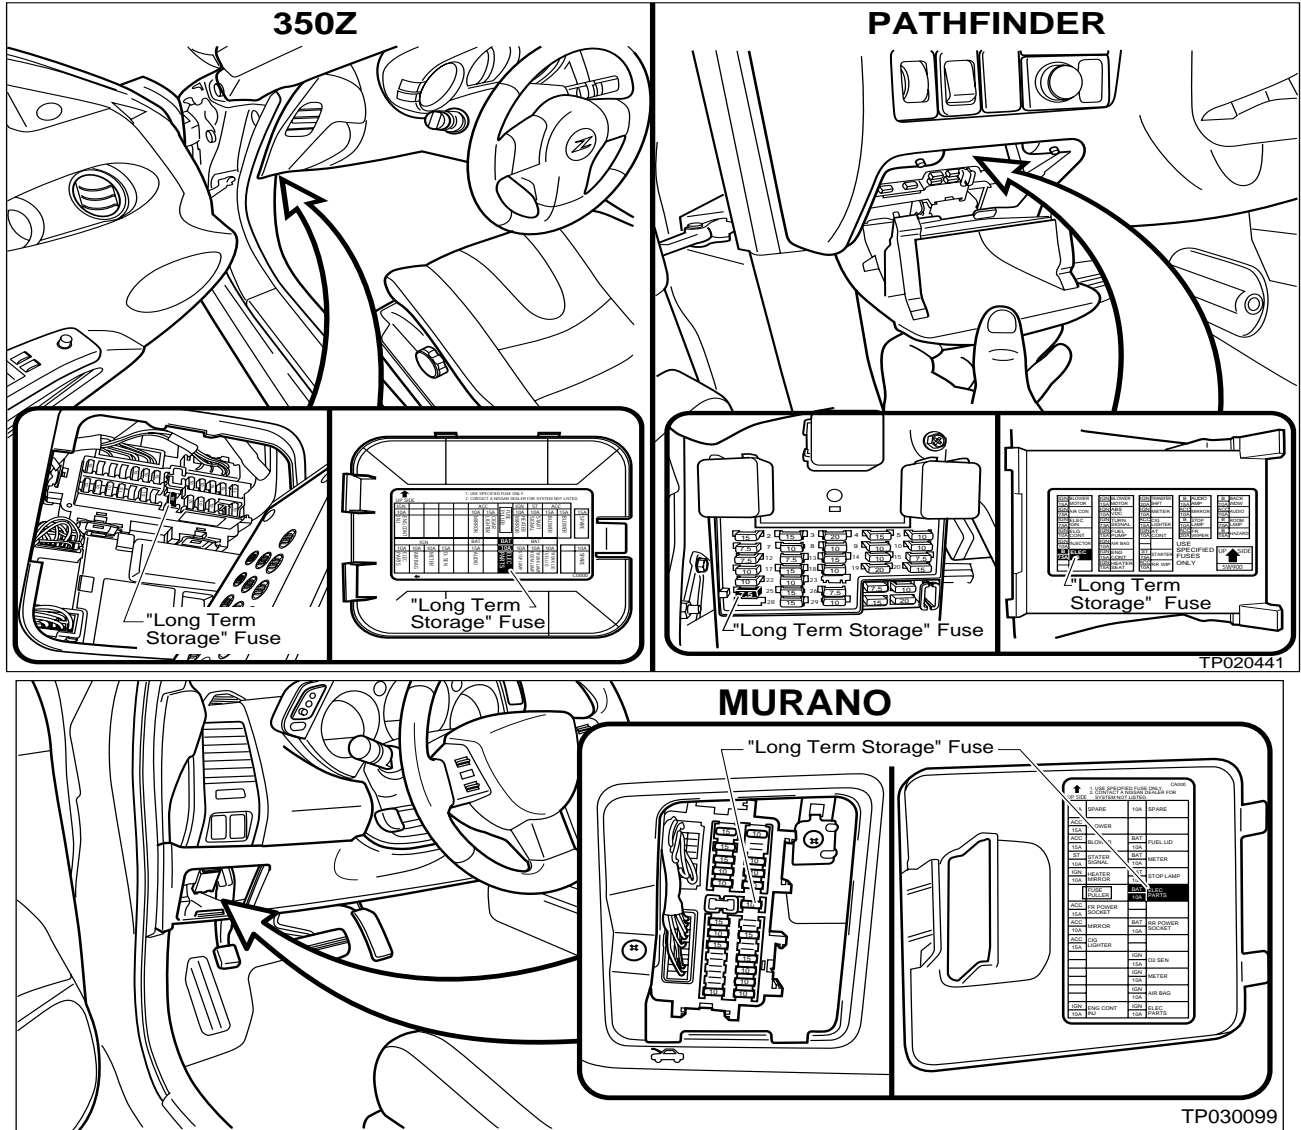

Figure 2
2. **Confirm** the “Long Term Storage Fuse” is installed in the vehicle’s fuse panel (see Figure 2).